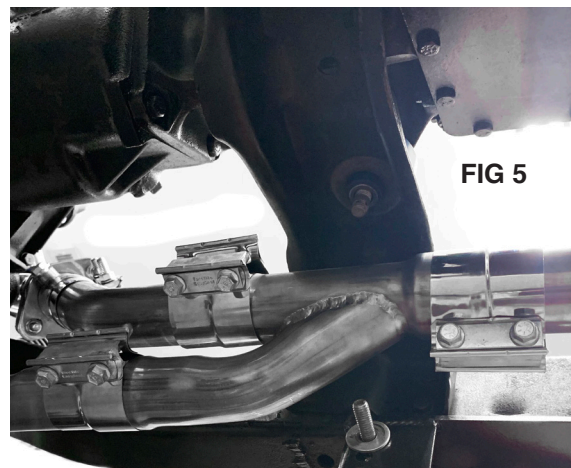

FIG 5
5. To install Y Pipe **C**, first see **FIG 5** then slide the flared ends of Y pipe **C** over Head Pipes **A & B** and loosely install two 2 1/4" stainless band clamps. Tighten them just so they are snug and add a little resistance. Don't over-tighten or you will struggle to remove the pipes or move them into their correct position. Position Y-pipe **C** as shown in **FIG 5**. It's very important to do this step so the **A** pipe is in the correct position. Use a rubber mallet to tap the Y pipe so it slides all the way over both head pipes.